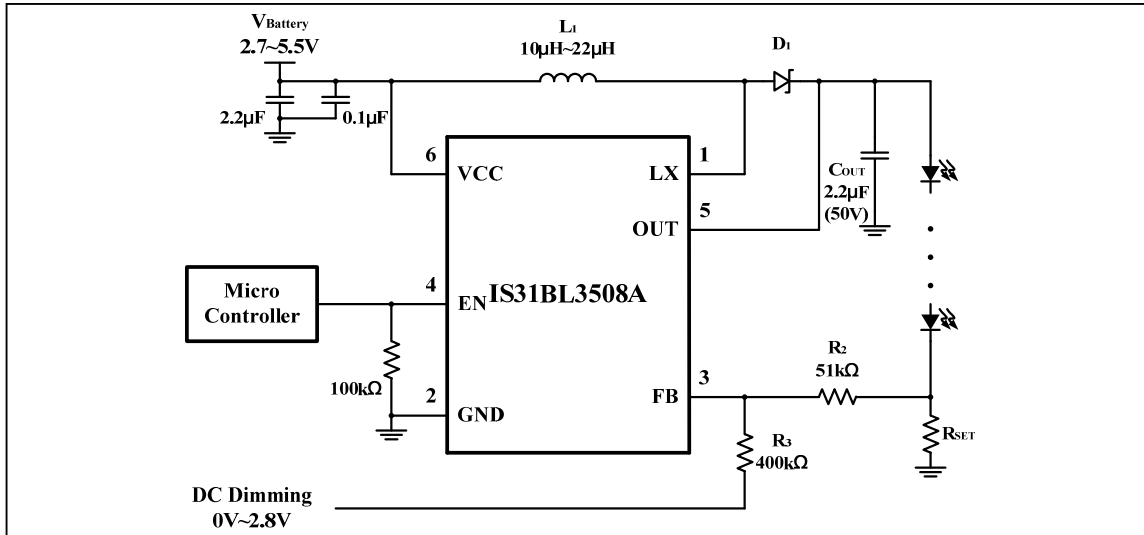

Figure 5 Constant output current with DC dimming input
The schematic of Figure 5 show an example of using a DC input voltage at the FB pin to implement LED dimming. When the DC input voltage increases, the current through R2 and R3 increases producing an offset voltage across R2, thereby causing the LED current to be reduced. The LED current may be computed using the following Equation (3). VFB is 0.3V (typ).